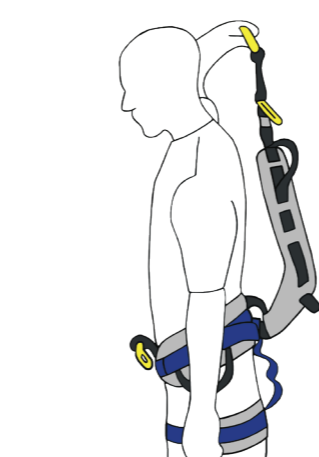

Fig 8
8. Once fitted, check for any twists, that all buckles are fastened correctly, any excess webbing is secured back through the elastic tidies, attachment points are positioned correctly, overall fit is snug but not over-tight or too loose. (Fig 8 & 9)